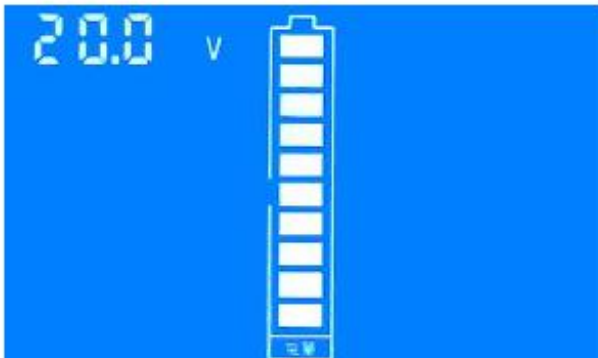

Figure 3: full voltage setting interface (low bit)
- III. Press and hold to go into “Set” until the display screen changes to Figure 3 below. Release the button if it has changed.